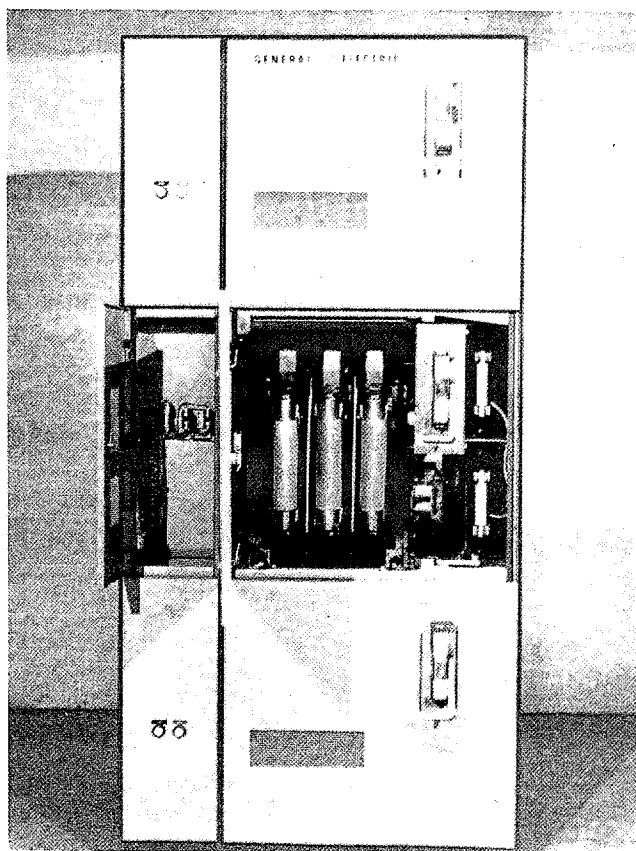
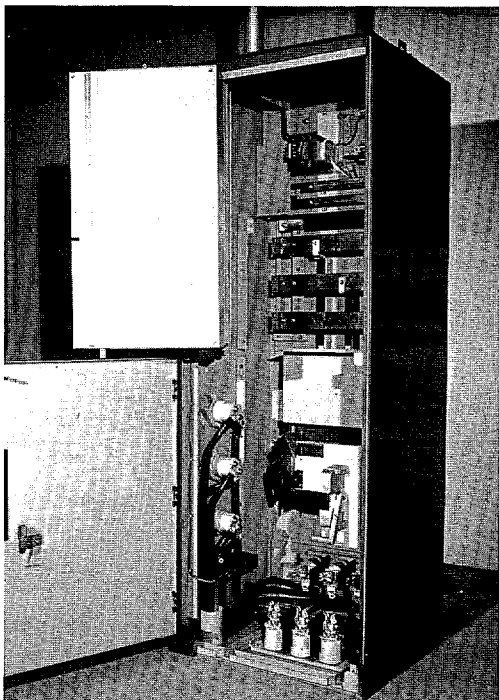

Fig. 43. Three-high enclosure with high- and low-voltage doors open showing main fuses, control-power transformer fuses and control fuses.
Fig. 54. One-high enclosure with contactor and barriers removed, showing left side of enclosure and terminals on bus.
After the equipment has been set in place where it will be permanently connected, some internal disassembly is required to make the necessary external power-cable and control-wire connections. Disassembly should be done in a definite sequence by following Fig. 43 through Fig. 54 and as described below:
2. Open the high-voltage door (Fig. 43).
In the one-high enclosure with horizontal power bus, incoming power connections are made at the left side of the enclosure. When the contactor and barriers are removed from the one-high enclosure, both ends of the main a-c power bus, d-c bus, and ground bus are accessible from the inside of the enclosure. To add additional units to a lineup of enclosures, the new enclosure can be located in position, and with the bus jumpers furnished with the equipment, the bus connections can be made to either side of existing equipment. Figures 54 and 55 show the accessibility of both ends of the bus bars in the one-high enclosure with the contactor and barriers removed and the low-voltage base swung out.
Motor connections may be made from either the top or bottom of the enclosure. In the one-high enclosure, the motor terminals are on the lower-left sidewall as shown in Fig. 54. (For a more detailed illustration, see Fig. 78.) The connections may be made before or after energizing the main bus and without shutting down adjacent equipment.